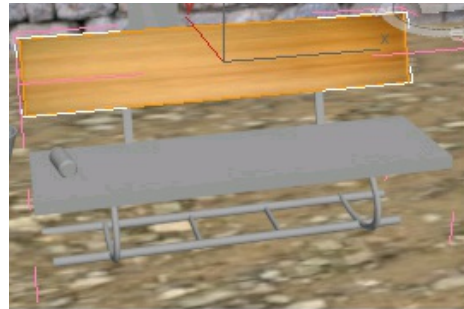

Figure 7-100 The wood material displayed after using the **UVW Map** modifier
6. In the **Parameters** rollout, select the **Box** radio button from the **Mapping** area. Next, select the **X** radio button and then choose the **Fit** button from the **Alignment** area; the texture is properly applied on *back*, as shown in Figure 7-100.